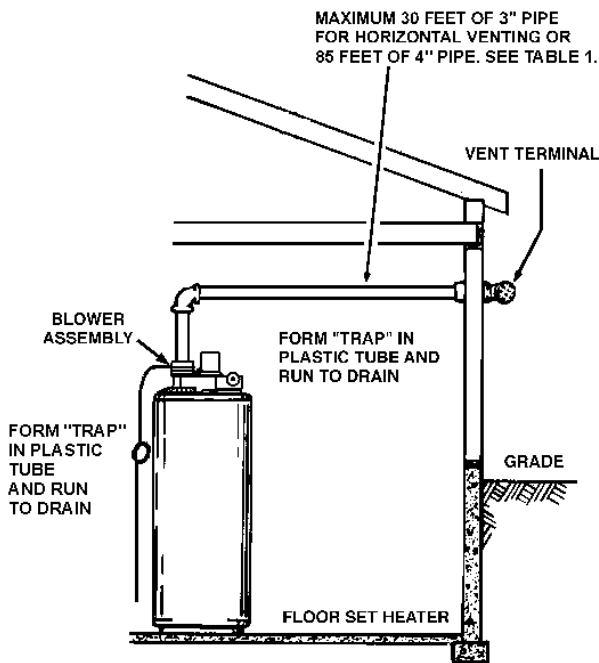
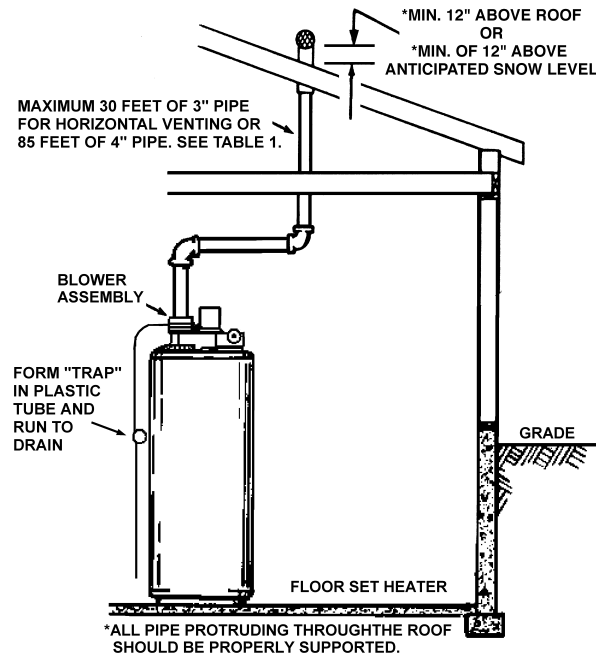

FIGURE 8
FIGURE 9
The first step is to determine where the vent pipe will terminate. The vent may terminate through the roof (see Figure 9) or through a sidewall (see Figure 8).
One method to catch the condensate before it can run back to the fan is to install a "TEE" mounted upside down and capped, just past the first elbow, (Fig.9) of the vent pipe system. This set-up will require the installation of a small (1/4-3/8 inch) plastic tube, with the proper trap, to drain the condensate to a floor drain.
This unit is approved for venting through the roof with only the vent terminal that is included with the unit, see Figure 9. A proper flashing or "BOOT" should be used to seal the pipe where it exits the roof. The total vent system should not exceed the thirty (30) equivalent feet of 3 inch pipe or sixty (60) equivalent feet of 4 inch pipe as listed in Table 1.